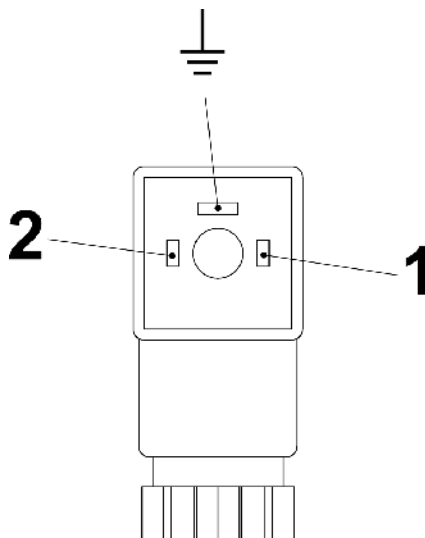
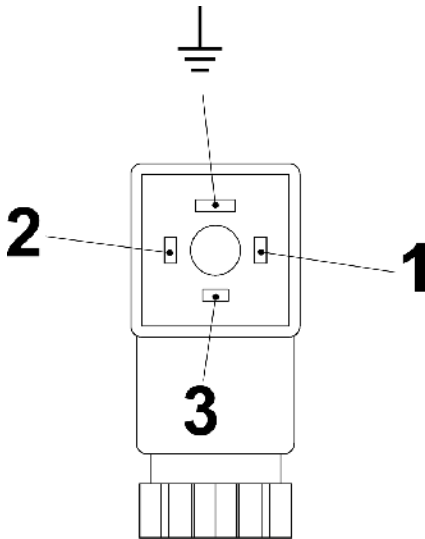

Fig. 24: Pin assignment, plug socket, normally-open contact (Form 15x50)
Fig. 25: Pin assignment, plug socket, change-over contact (Form 15x50)
6. ➤ Make the connections as shown in connection diagrams (Fig. 24 und Fig. 25)